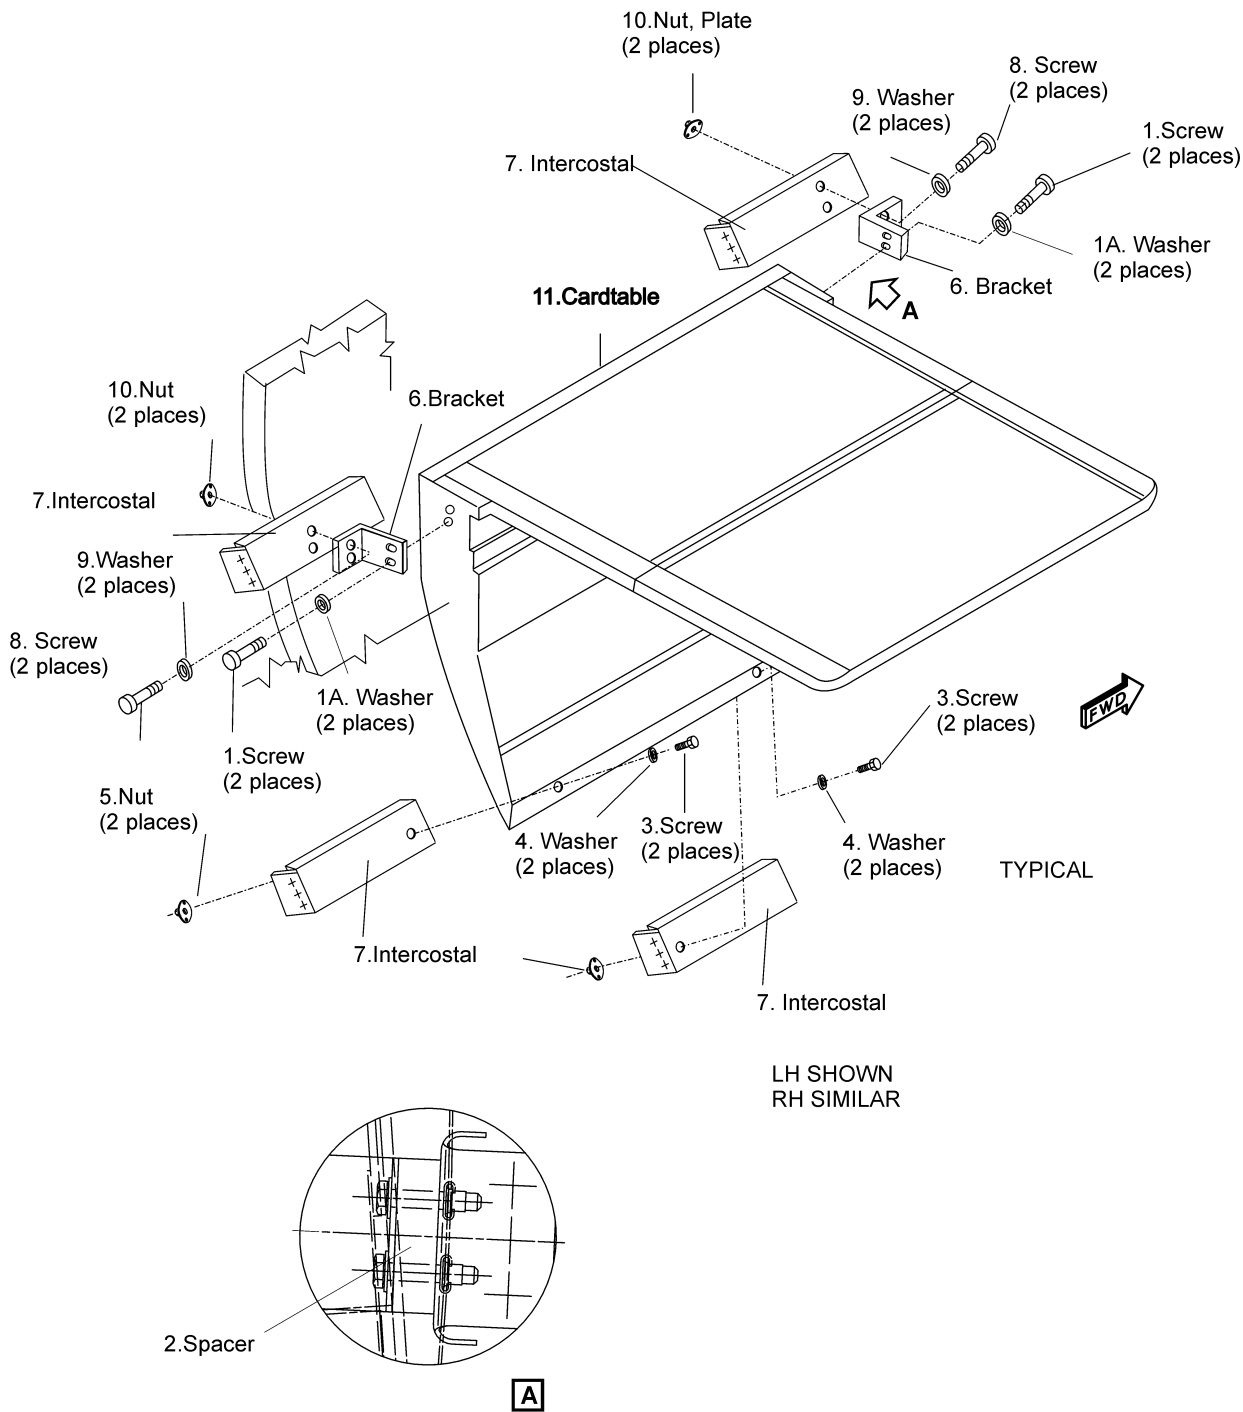

Fig. 215 - Cardtable - Removal/Installation
- (2) If the flight phone is installed do the following steps:
- (a) Place the armrest panel (2) near the internal side of the airplane.
- (3) If previously disconnected, connect the membrane switch connector.
- (4) Insert the upper side of the armrest panel (2) for its full length into the retainer (1).
- (5) Secure the lower side of the armrest (2) to the airplane structure by the washer (4) and the screws (3).
- (6) Remove the safety tag and close the applicable circuit breaker.
22. Cardtable - Removal (Ref. to Fig. 215)
- (1) Remove the two screws (3), the washers (4) and the nuts (5) that connect the lower side of the cardtable (11) to the intercostal (7).
- (2) Remove the two screws(1) that connect the cardtable to the bracket (6)
- (3) Remove the spacer (2) if installed
- (4) Move apart the cardtable (11)
23. Cardtable - Installation (Ref. to Fig. 215)